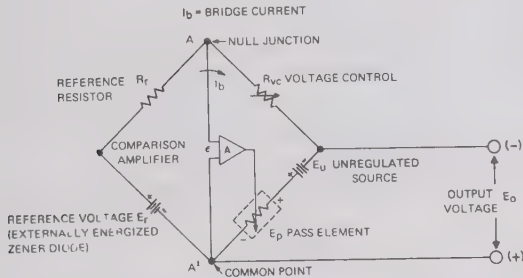

FIG. 3-3 KEPKO POWER SUPPLY AND COMPARISON BRIDGE CIRCUIT
3-8 INTRODUCTION TO REMOTE PROGRAMMING (Refer to FIG. 3-3)
3-9 A few general remarks may be in order to familiarize the user of this equipment with the terminology and basic equations pertaining to remote programming of the Kepco PCX and PCX-MAT Power Supplies. Electrically, the power supply consists of the unregulated DC source (E_u), the pass element (E_p), the DC error amplifier (A) and a comparison circuit which resembles a four-arm electrical bridge. (Refer to FIG. 3-3). The elements of the bridge are arranged to produce a virtual zero at the amplifier input when the bridge circuit is at balance ($V_{AA}=0$). Any tendency for the output voltage to change in relation to the reference voltage (R_r) creates an error signal which, by means of negative feedback and the amplifier, tends to correct the output voltage towards restoration of bridge balance.